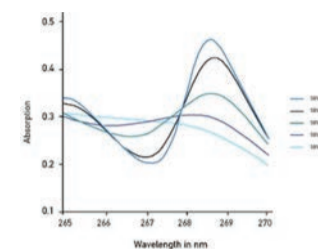

Figure 8: Scan of Toluene in Hexane at Various SBW and Typical Table of ratios
2. Spectral Band Width (SBW) is tested using a mixture of Toluene (0.02%) in Hexane against a Hexane blank. A scan between 275 and 260nm reveals a peak around 269nm and a valley around 266nm. The ratio of the absorbance of the peak to the absorbance of the valley indicates the spectral band width of the instrument. A typical table for the conversion of the ratio to a SBW is shown in Figure 8; in practice the table supplied with the standards must always be used.